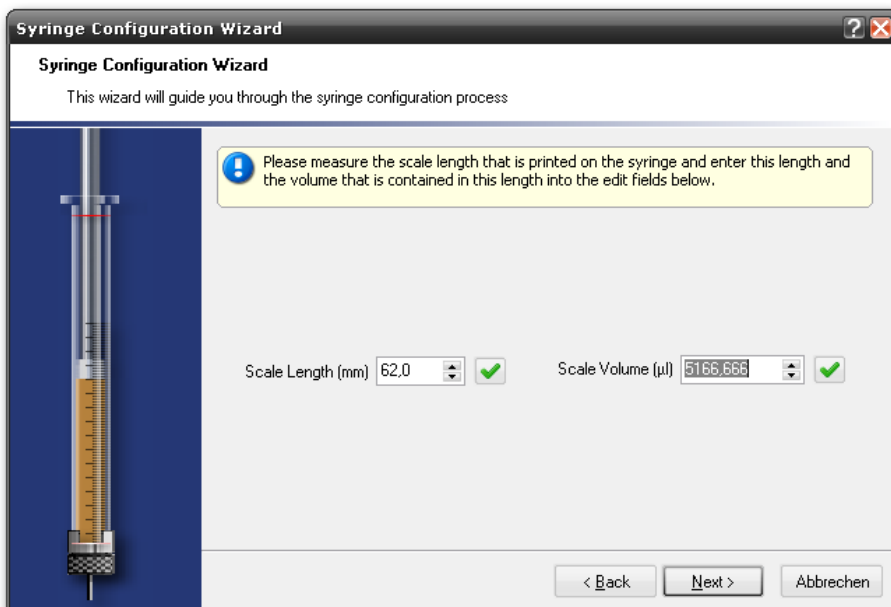

Figure 45 - Syringe configuration Step 3a - Enter Volume and Length
- (3a) Configure the internal diameter of the syringe by stating the scale length and volume within this scale length (Figure 45). To do so measure the scale with an appropriate measuring tool (slide rule) and take the volume from the scale label. Then click *Next* to move to the next step and continue reading at Point 4.